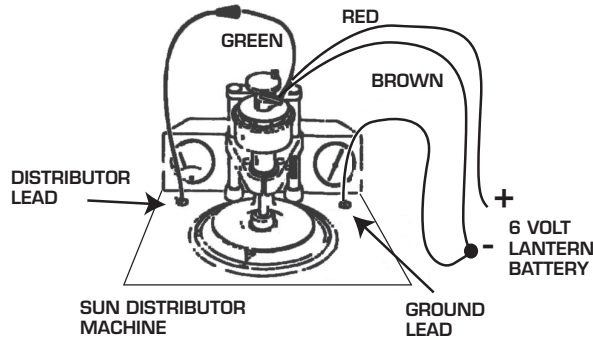

Figure 2
9. Mount connector pins into plastic terminal pin housing supplied. Be sure wires are shoved into pin housing as shown in Figure 2. Shove pins into pin housing until a definite click is heard. Install rotor-shutter onto cam sleeve. Be sure it is sealed down onto the cam sleeve.